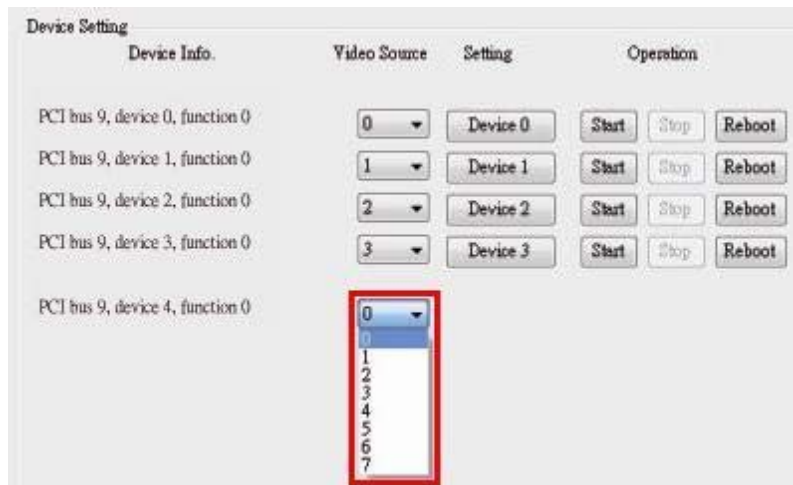

Figure 4-9: Select Transmitter Device for HDC-304E
- Step 4:** **This step is only required for the HDC-302E.** Select the transmitter bus (0 or 1) (**Figure 4-9**). For example, to view the video input source 1 on HDMI display device, select the transmitter bus 0. Please refer to the following table:
**Step 5:** This step is only required for the HDC-304E. Select the transmitter bus from 0 to 3 (Figure 4-9). For example, to view the video input source 1 on HDMI display device, select the transmitter bus 0. Please refer to the following table: